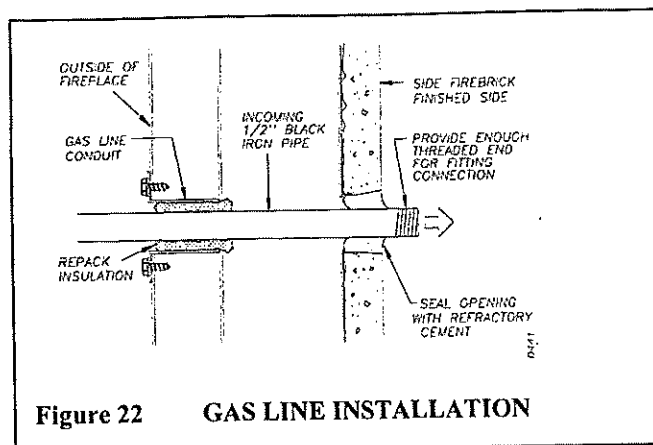

Figure 22 GAS LINE INSTALLATION
STEP 3: Run a 1/2 inch black iron gas line into the fireplace through the rear at gas line conduit sleeve (if using a raised platform, add height). Provide sufficient gas line into fireplace chamber for fitting connection (see figure 22).